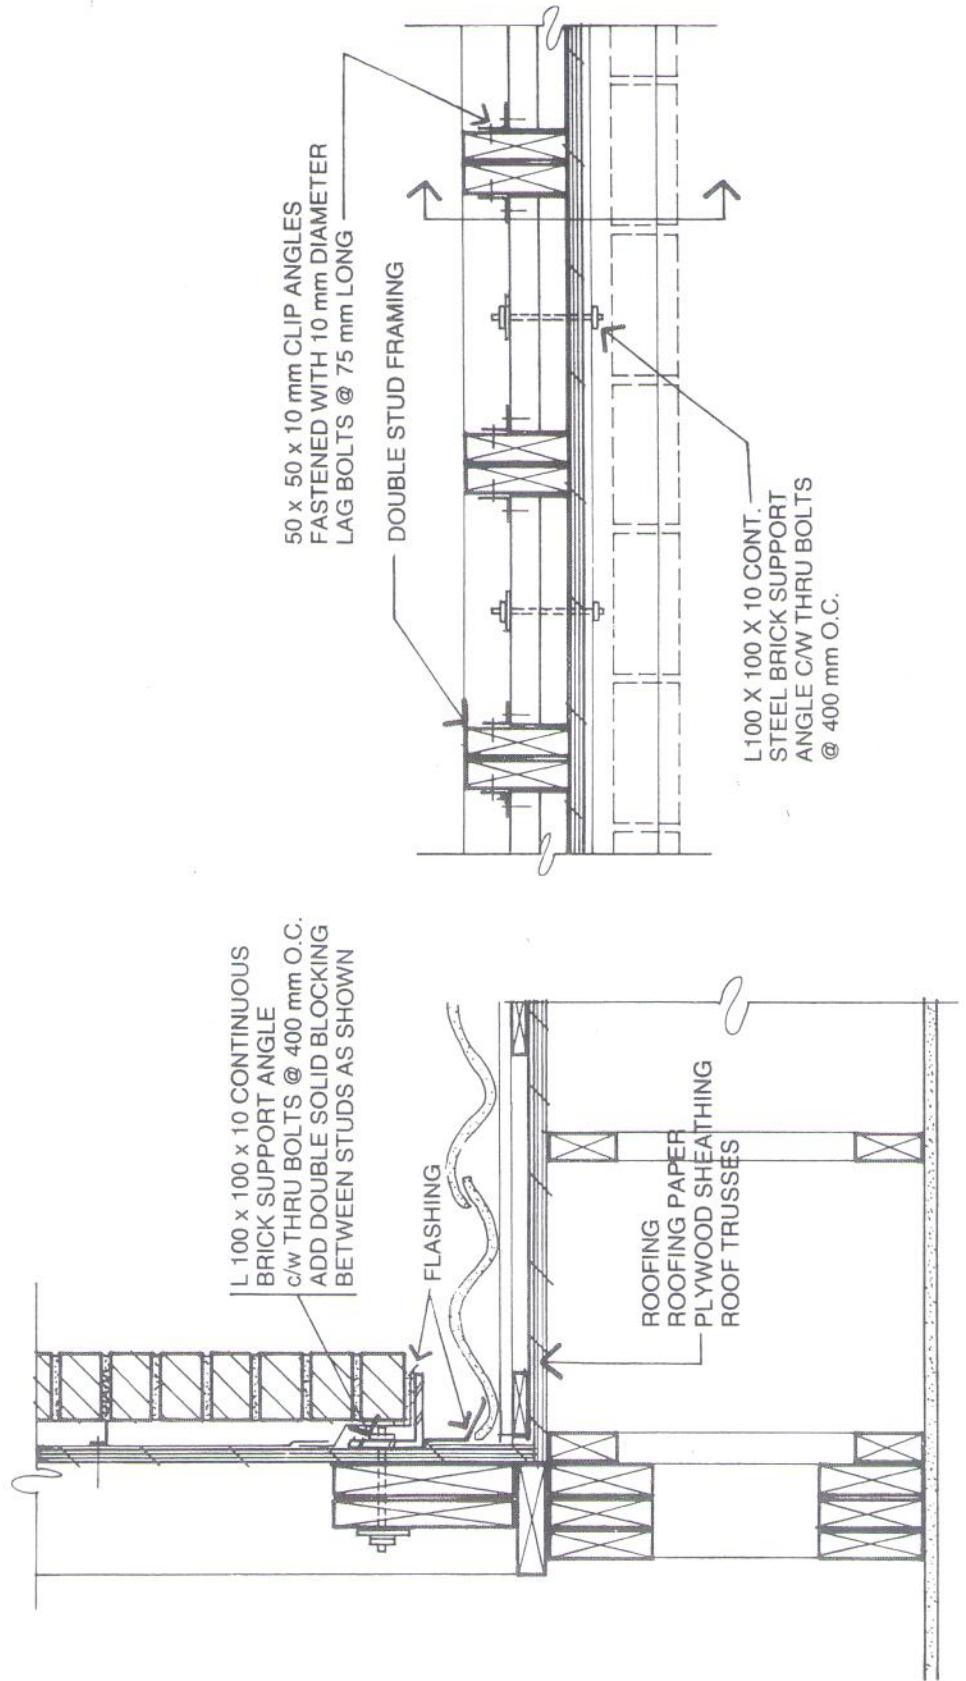

Figure 7 Section through alternate brick veneer supported by truss (typically over attached garages)
- Figure 7 Section through alternate brick veneer supported by truss (typically over attached garages)